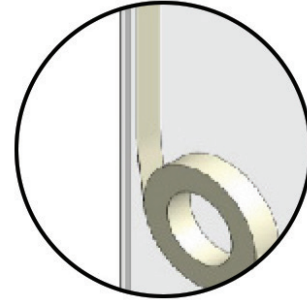

FIG 10.
- Apply masking tape down the length of the panel, allowing a 10mm gap for the glass to butt into for the glass to glass join (FIG 10).